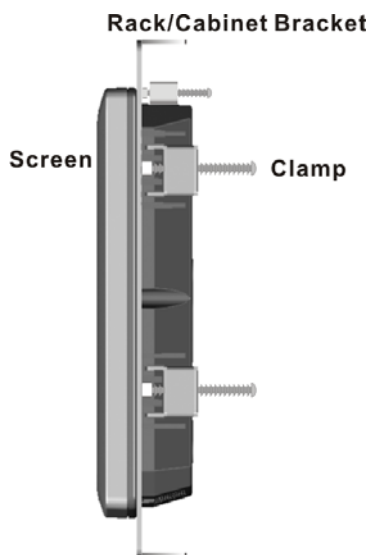

Figure 3-20: Secure the Rack/Cabinet Bracket
Step 3: Tighten the screws that pass through the rack mounting clamps until the plastic caps at the front of all the screws are firmly secured to the bracket (**Figure 3-20**).